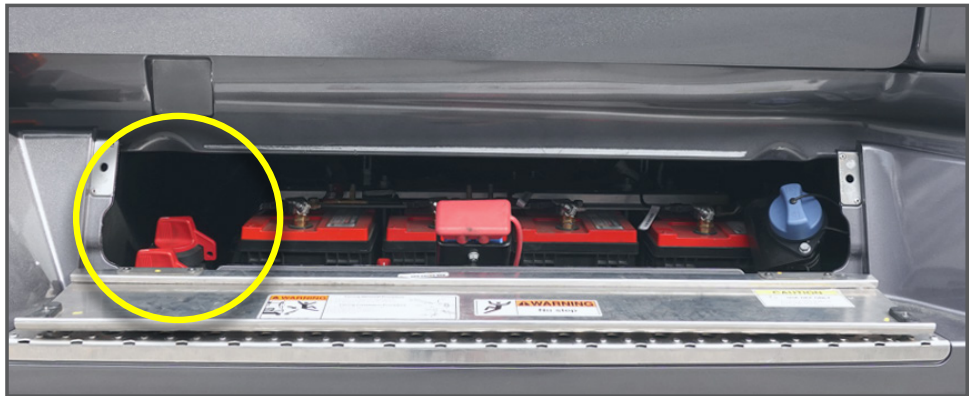

Figure 8. Driver step hatch with battery bank and disconnects
5. Turn all six battery disconnects (two inside access panel below driver steps (**Figure 8**), two on either side of catwalk in rear of truck (**Figure 9**) to the “off” position (**Figure 10**).